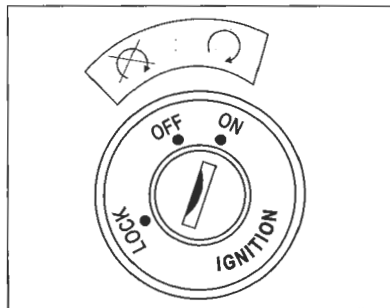

Fig. 16
**To switch on the ignition:** Turn the key further clockwise to 'ON' position (fig. 16).